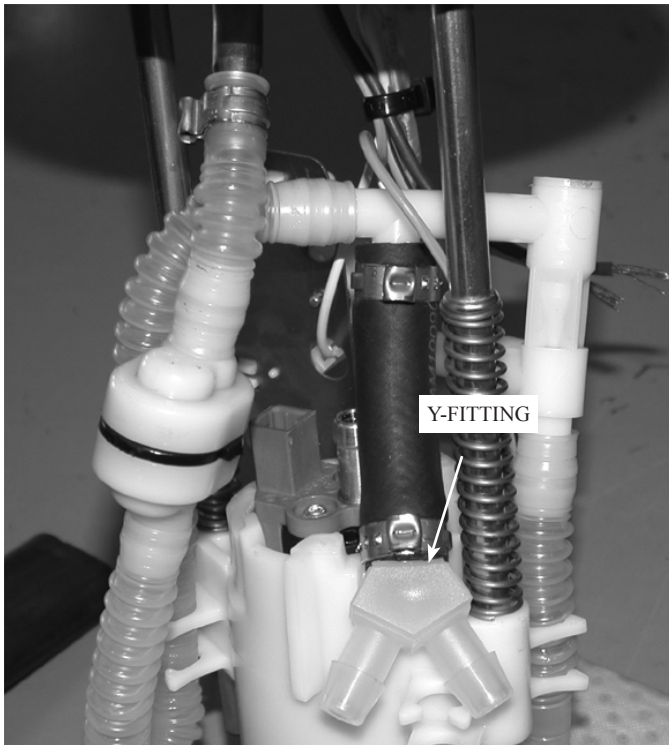

Fig. 13-e
- I. Locate the supplied fuel pump and pump inlet screen. Attach the pump inlet screen to the pump and orient exactly as shown. (See Fig. 13-f.)